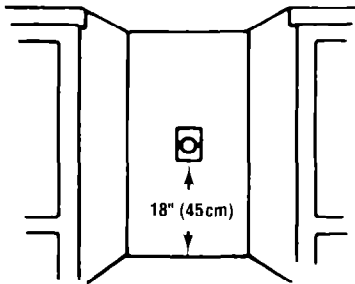

FIGURE 8
2. The recess must have a grounded outlet 18" min. (45cm) above the floor as shown in Figure 8.